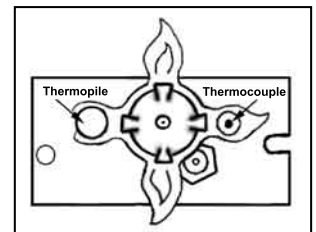

Figure 19: Pilot Burning.
4. Open door. Wait five (5) minutes to clear out any gas. Close door. If you smell gas including near the floor, STOP! Follow "B" in the above safety information. Leak test all gas joints with soapy water **NEVER USE AN OPEN FLAME FOR LEAK TESTING**. If you don't smell gas go to next step.
7. Push the gas control knob in fully and hold. A BATTERY operated electronic igniter will light the pilot. Keep knob depressed for about 30 seconds after pilot is lit. **Check that the pilot flame has fully engulfed the thermocouple assembly (see Figure 19)**. Release knob. If pilot goes out, repeat steps 4 through 6.